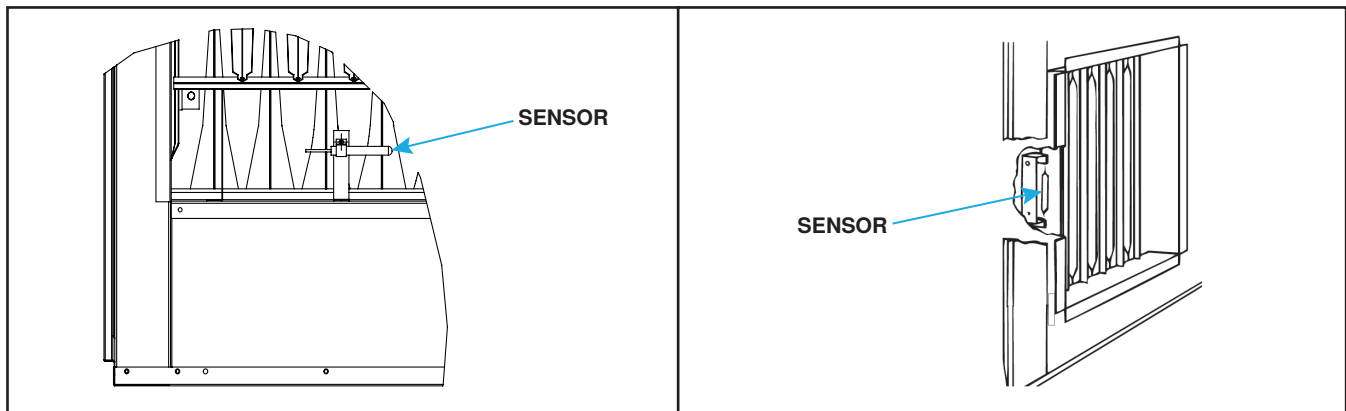

Figure 15. Shipping Locations of Capillary Sensor
Depending on the gas control option, the discharge air temperature sensor is either factory- or field-installed. Field-installed sensors have one of two configurations: a sensor and mixing tube assembly or a sensor holder and junction box assembly. For units with the sensor holder and junction box assembly option, the sensor is normally installed on a bracket in the furnace discharge for shipping but it may be mounted in the cabinet leg (see Figure 15).
- (1) Before connecting ductwork to furnace, remove capillary sensor from its shipping position on furnace (see Figure 15).